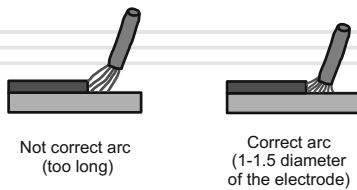

figure 6
6. To excite the arc pull the electrode from the work piece at a distance (depending on the diameter of the electrode spacing should correspond to the diameter of the electrode used 1-1.5) and hold it for the entire length of the welding process (see Figure 6).